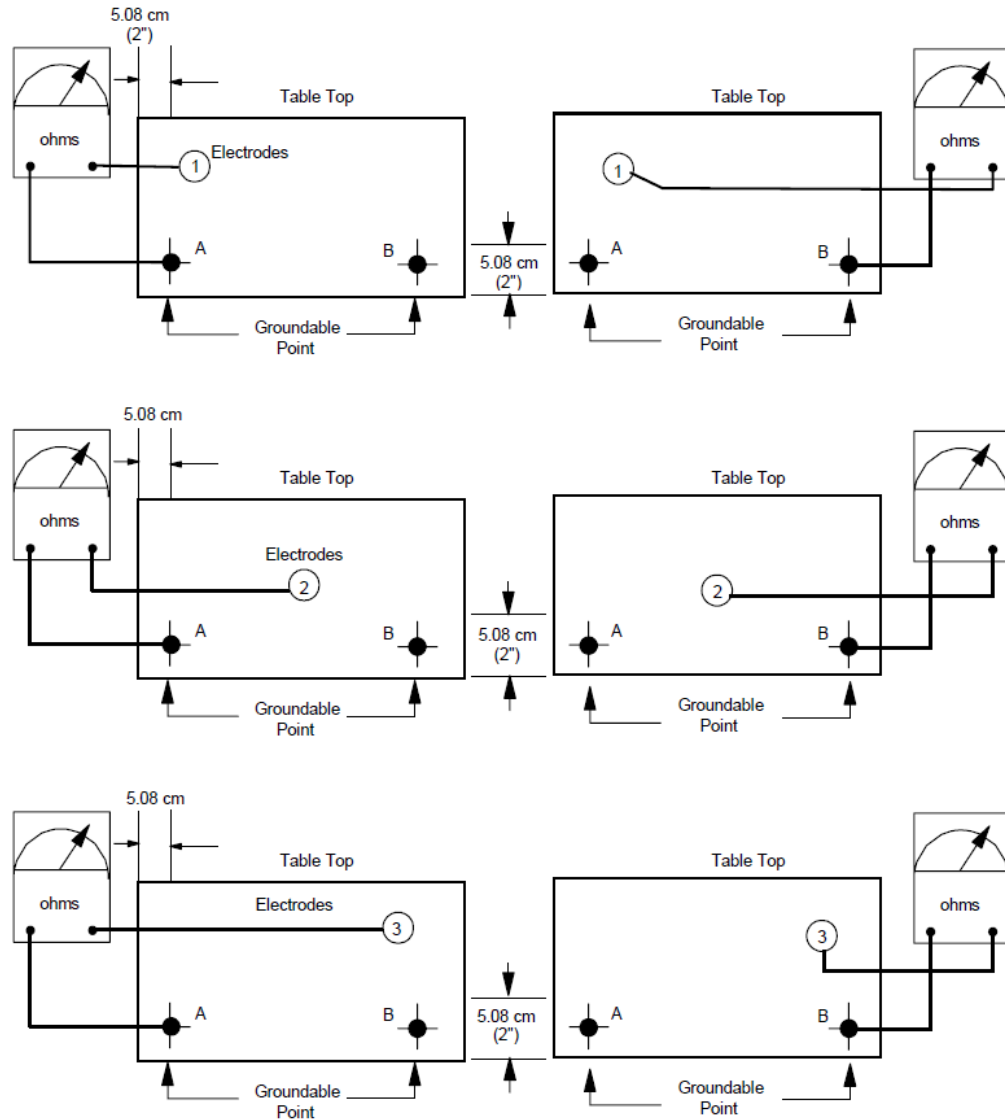

Figure 1 - Resistance to Groundable Point Testing
2. Place the electrode at position 1. Set the meter output to 10 volts and initiate a resistance measurement. If the resistance is less than 1×10^6 ohms record the value. If the resistance is greater than 1×10^6 ohms set the meter output to 100 volts and repeat the measurement. Record the resistance once the reading stabilizes. (See Figure 1)